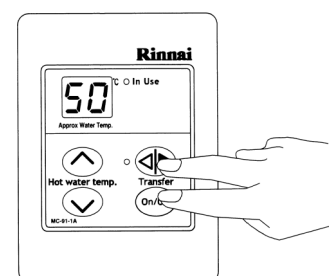

Fig. 2
STEP 1: On the Master controller press and hold the **Transfer** and **ON/OFF** buttons simultaneously (see Fig. 2) until a “beep” is heard (approx. 5 seconds).